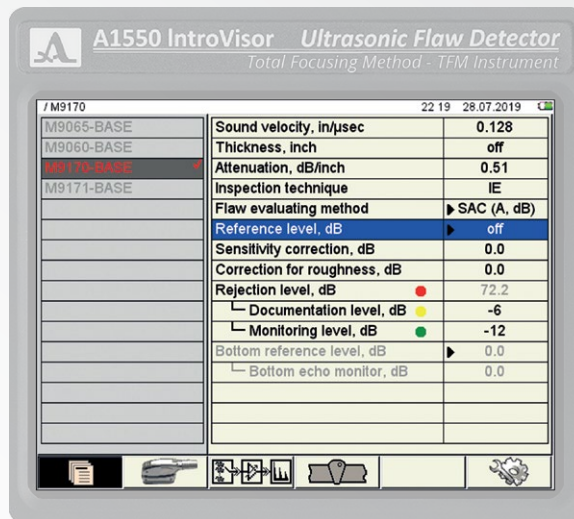

FIGURE 53
1) From the TOMOGRAPH mode, press the SETUP  key and select the device parameters screen pertaining to the array that is connected to the instrument, as shown in Figure 53.
6) In this example, the reference level from the reflector is 70.6 dB. This will also become the Reject Level (R). The Monitor (M) and Document (D) levels will now be based on this value. Those levels are established on the screen displayed in Figure 53 earlier. Generally speaking -12 dB and -6 dB are used, respectively. This is determined by code or job specifications and can be changed as needed.